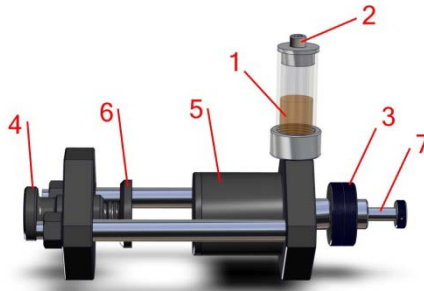

Figure 5.5.1
1. Remove the accessory mounting nut (Figure 5.5.1, Item 3) from the supporting frame of the High Compression Strength Accessory.
2. Gently slide the High Compression Strength Accessory onto the moveable clamp arm (Figure 7.3, Item 12) of the strength machine. Replace the mounting nut (Figure 5.5.1, Item 3) and hand tighten to secure the accessory onto the moveable clamp arm of the strength machine (see Figure 5.5.2).
The green compression clamp (Figure 5.1.1, Item 3) must be installed on the stationary clamp holder of the strength machine. The green compression clamp will provide a flat surface for the end of the slide rod (Figure 5.5.1, Item 7) to press against during a compression test.
3. Pull the slide rod (Figure 5.5.1, Item 7) towards the compression clamp located on the stationary clamp of the strength machine. Pull the slide rod to its fully extended position.
4. Gently hold in place a prepared 2" x 2" (50mm x 50mm) sand specimen between the moving head (Figure 5.5.1, Item 5) and the stationary clamp (Figure 5.5.1, Item 6) of the High Compression Strength Accessory. Using the sample clamp adjusting nut slowly tighten the sand specimen between the moving head and stationary clamp to secure the sand specimen between the two clamps. Tighten the sample clamp adjusting nut just enough to secure the sand specimen in place, do not over tighten the nut.
2. With the High Compression Strength Accessory mounted on the strength machine in an upright position remove the vent cap (Figure 5.5.1, Item 2).
3. By hand, quickly move the slide rod (Figure 5.5.1, item 7) in and out while observing any air bubbles that may escape through the oil reservoir (Figure 5.5.1, Item 1). Once all of the air bubbles have traveled through the oil within the oil reservoir, repeat this process. Continue this process until no air bubbles are visible rising through the oil within the oil reservoir.
(See Figure 5.5.1 for Item Description)